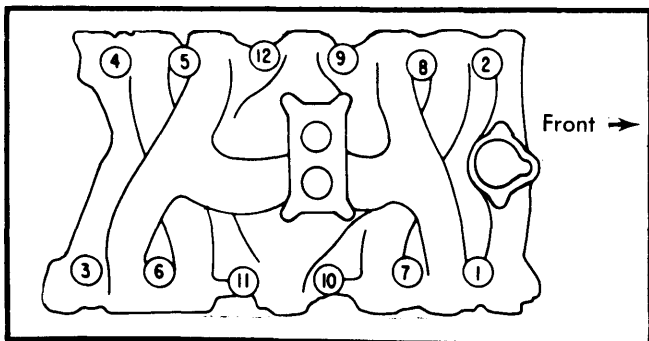

Fig. 1 Intake Manifold Tightening Sequence
**Installation** — Clean all gasket surfaces. Coat both sides of new intake manifold gasket with sealer and install gasket on head. Install end seals, being sure that end of seals are positioned under edges of heads. Install manifold. Dip bolts in engine oil and install. Tighten bolts first to 15 ft. lbs. (20 N·m), then tighten to specifications. See Fig. 1. Reverse removal procedure to complete installation.